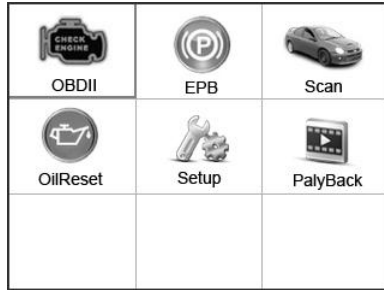
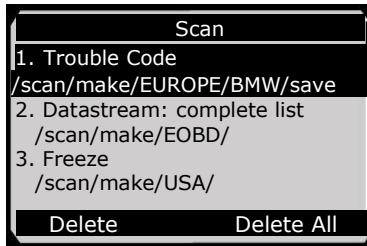

Figure 3.1
Figure 4.1
- 1) Use the **LEFT/RIGHT** scroll button to select **Playback** from **Main Screen** (Figure 3.1), and press the **OK** button. Wait for the **Scan** screen to appear. (Figure 4.1)
- 2) Select the **Scan** icon on the **Main Screen** (Figure 3.1) and then select the desired vehicle area and make.